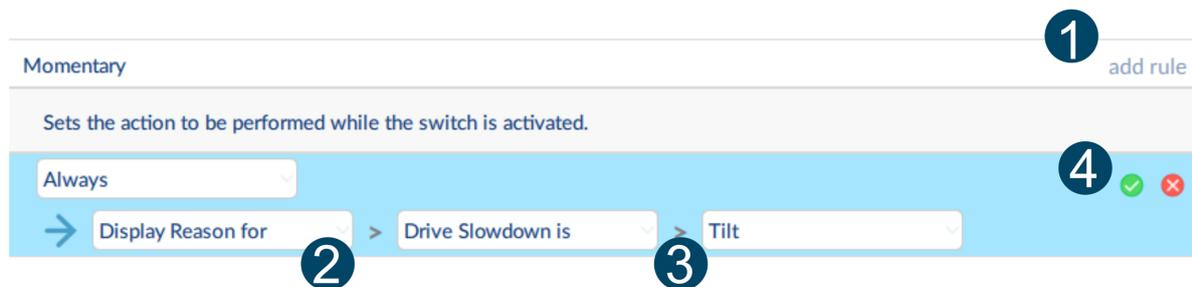

Figure 110: Configuring an always rule
1. Hover your mouse pointer over a control IO slot and click on the **add rule** button when it appears on the right-hand side of the slot *Figure 110* **1**. Make sure the **conditions** dropdown menu is set to **Always**.
2. Click on the first **output action** drop-down menu, which is on the left-hand side, under the **conditions** dropdown menu, and select an output action *Figure 110* **2**.
3. Click on the second and third output action drop-down menus (if available) to refine the output action *Figure 110* **3**.
4. Click on the **Commit rule** button (check mark) to commit the rule *Figure 110* **4**.